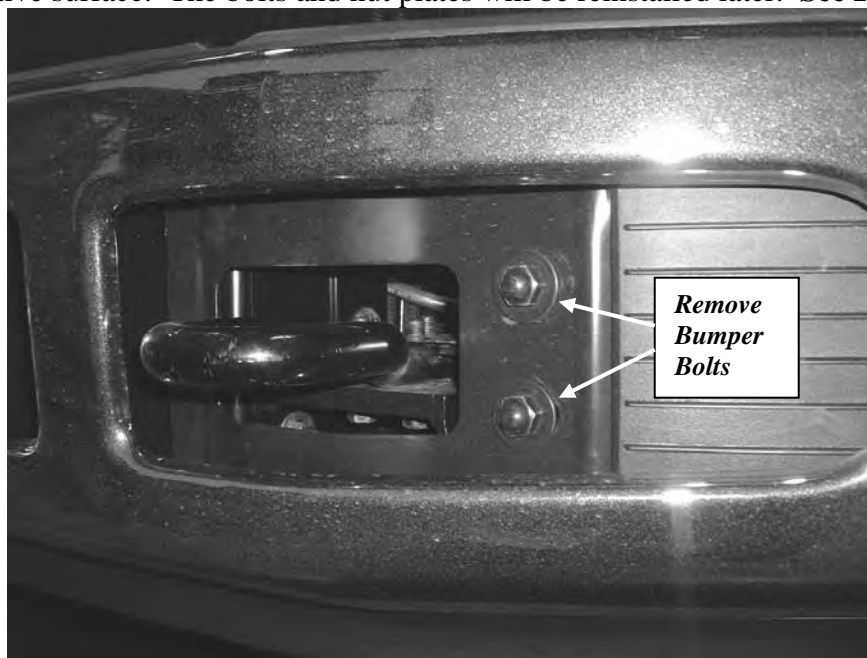

Figure 5 LH Front Bumper Bolts
7. Remove the (4) front mounting bolts (2 outboard of each tow loop) and remove the bumper. Place the bumper face down on a protective surface. The bolts and nut plates will be reinstalled later. **See Figure 5**